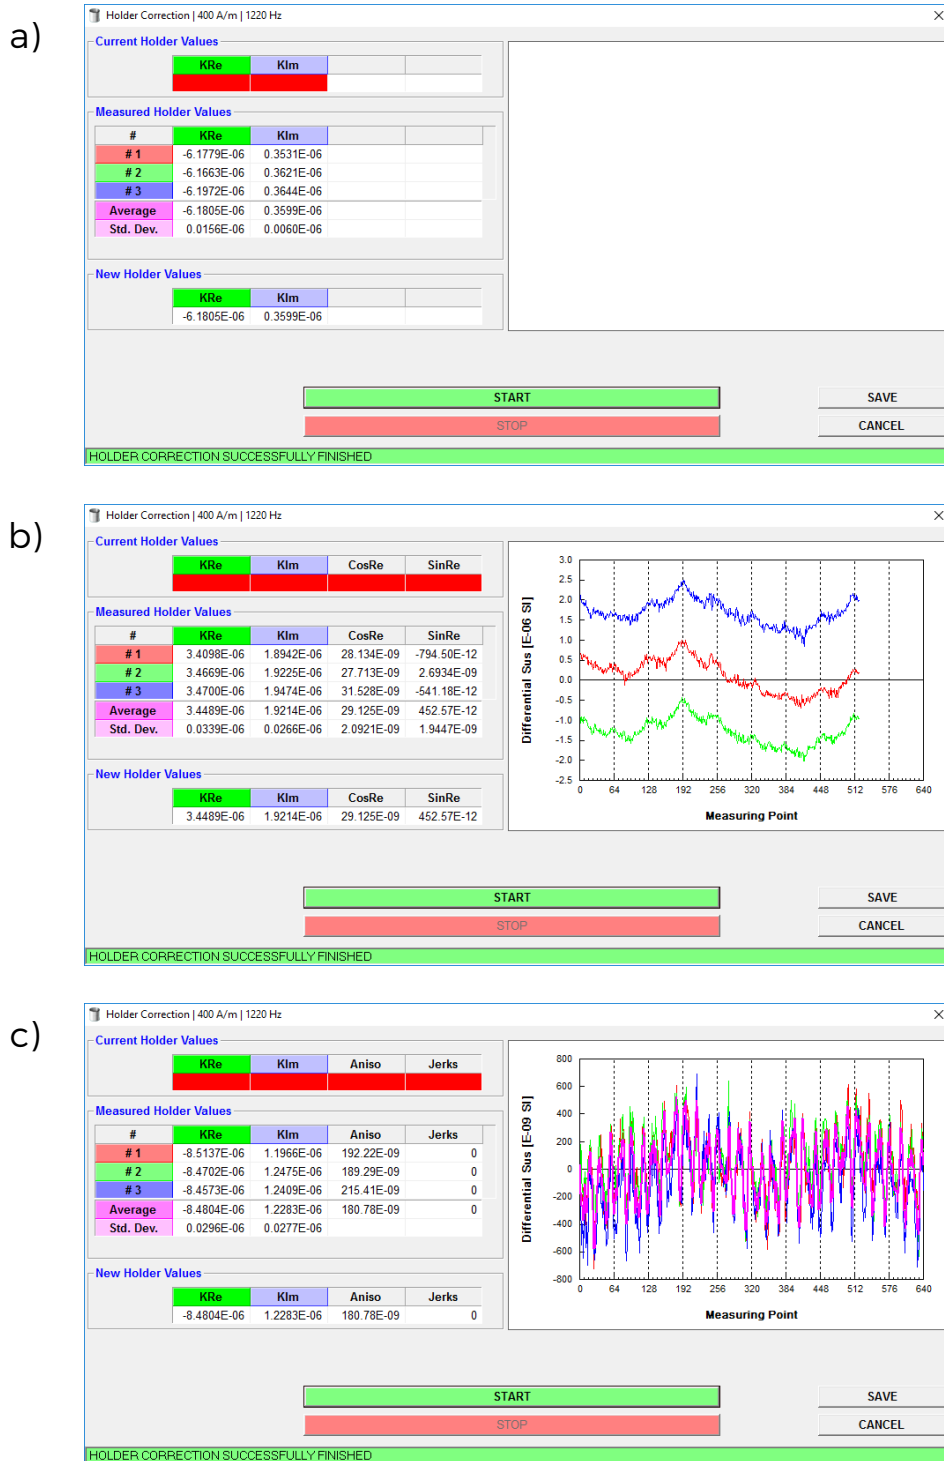

Figure 14: Typical examples of the Holder Correction windows for a) Manual measuring modes (including Manual Anisotropy Mode), b) 1-Axis Rotator, c) 3D Rotator.
1. Go to:    to launch the  window (Figure 14).